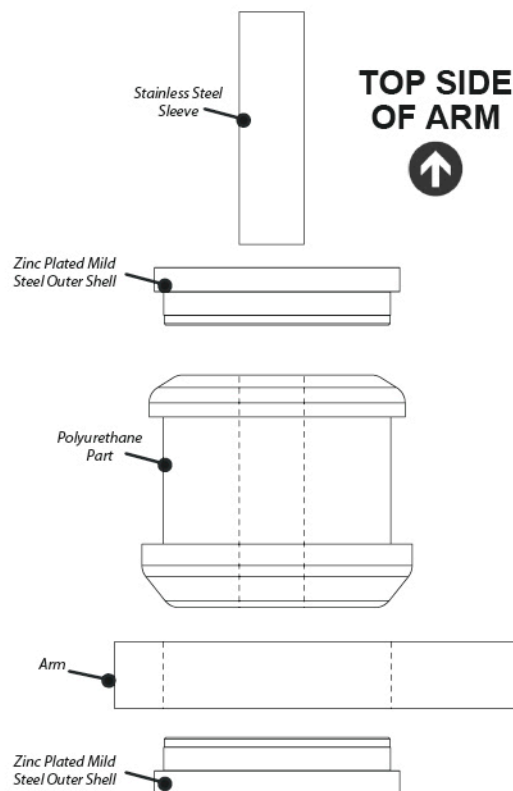

Figure 1
3. Press in the two zinc plated mild steel outer shells into the bore of the arm on either side so the top lip sits on top of the arm, as shown in Figure 1.
4. Push the polyurethane bush into the bore of the arm with the largest offset of the bush sitting on the top side of the arm, as shown in Figure 1.